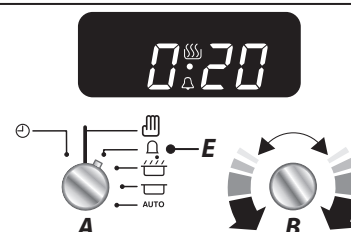

Fig. 4.3
2. Turn the **Adjusting (B)** knob to set the amount of time required. Minimum time 1 minute (**Fig. 4.3**).
3. Turn the **Timer (A)** knob back to the **Manual (D)** setting to see the current time and the 'Bell' symbol on the display.